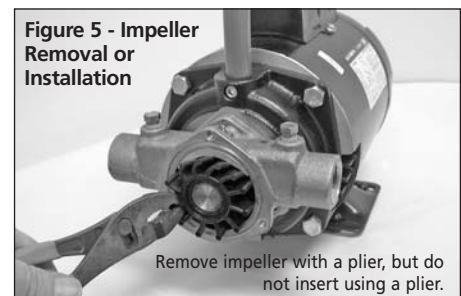

Figure 5 - Impeller Removal or Installation
- c. The impeller and sleeve assembly (Ref. No. 12) can be removed using two pair of pliers to grip two of the impeller's vanes on opposite sides of the impeller (See Figure 5).
- 2a. Place some anti-seize compound on motor shaft. Install the impeller and shaft assembly (Ref. No. 12) over the motor shaft using a non-petroleum-based lubricant such as silicone or soapy water. The impeller and shaft assembly is installed using a twisting motion in the same direction as motor rotation (See Figure 5).